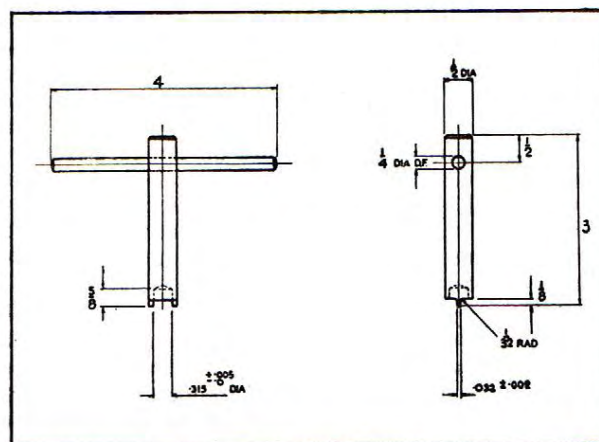
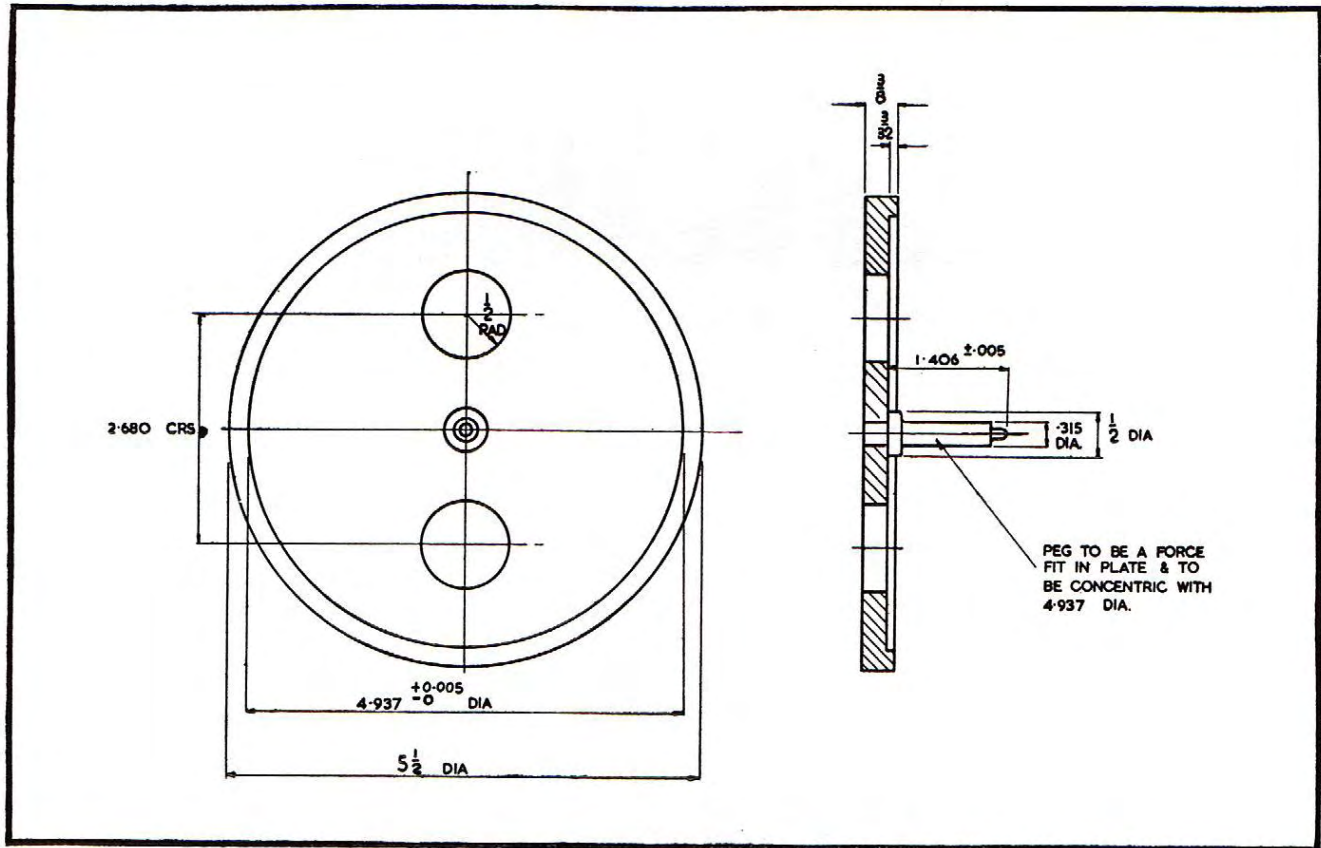

Fig. 2.
Fig. 5.
Read through the Lucas Workshop Instructions to get familiar about the process in Section 4a and 4b. It is necessary to make the special tool as shown in Figure 2 of the instructions. This will be used to rotate the Adjusting Sleeve to set the air gap of the Armature and coil core face.
If the air gap setting is incorrect, loosen the cone nut and sleeve lock nut. Turn the adjusting sleeve in a **clockwise** direction to **reduce** the gap, **anti-clockwise** to **increase** the gap. Use the tool shown in Fig. 2 to make this adjustment.
- (a) Before tightening the screws securing the coil assembly, the guide spring bearing must be centralised in the horn body. Place the centralising jig (Figs. 5 & 6) over the horn body, with the central peg located in the guide spring bearing, and tighten the coil securing screws. Make sure that the coil clamping plates are square to the windings, and that the coil is firmly clamped around the former and not moveable by hand.
The air gap adjusting tool (Fig. 2) and centralising jig (Figs. 5 and 6) must be made under local arrangements. The correct material for both tools is mild steel, case hardened.